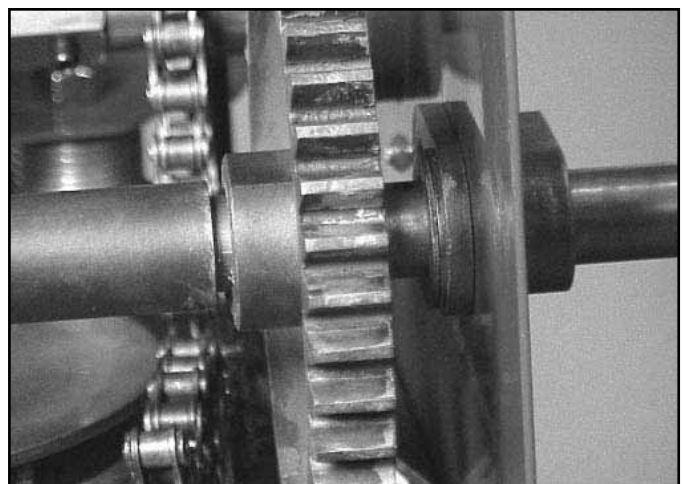

Fig 160
12. With the woodruff key out of the other side of the shaft as well as all the other components, install axle bearing onto housing and then slide the shaft in through the bearing and housing, through the two washers and 44-tooth gear sprocket into the tube (Fig. 160).